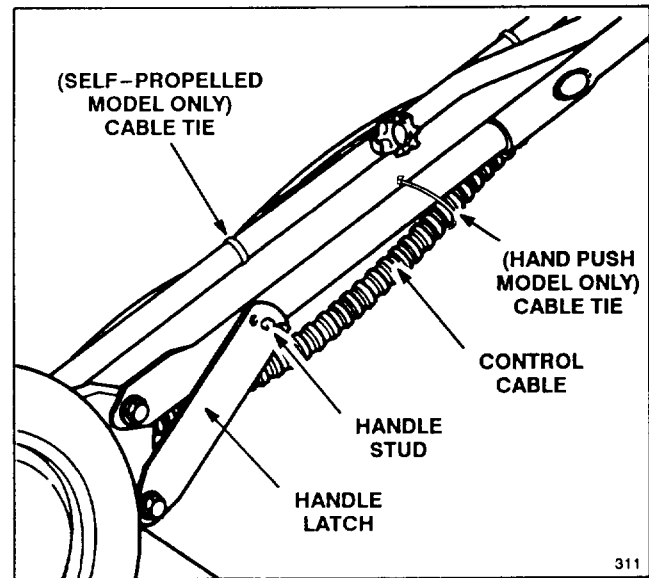

Figure 2
2. The left handle knob is shipped from the factory on the outside of the handle (Fig. 1). Remove the left knob and bolt. Reinstall knob and bolt on inside of handle (Fig. 2). Both handle knobs should be positioned on the inside of the handles. Tighten handle knobs.
3. Move handle latches slightly outward so they will not be in the way when pivoting the handle backward into the operating position (Fig. 2).
4. Pivot handle backward. Move handle latches inward while snapping handle stud into center hole of handle latch (Fig. 2). If a handle latch does not fit tightly against the handle tube, remove latch from handle stud, bend the latch inward, and reattach to handle stud. Repeat as necessary to ensure a tight fit between latch and handle. Make sure handle knobs are securely tightened.
Note: If handle height is not satisfactory, adjust by placing handle stud (Fig. 2) into a different hole. Tighten handle knobs.
5. Ensure control cables (Fig. 2) are to the rear and inside of handles. Secure control cables in position with cable ties (Fig. 2).